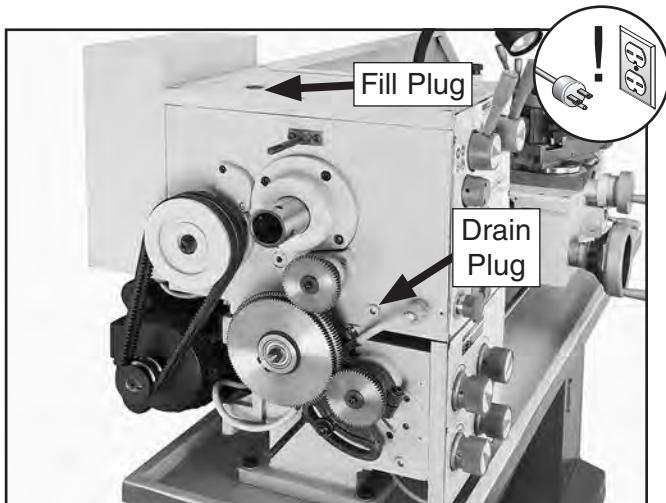

Figure 103. Headstock fill and drain plugs.
The oil fill plug is located on top of the headstock, as shown in **Figure 103**, behind the DRO mounting bracket. Add oil until level reaches halfway in sight glass (see **Figure 102** on **Page 73**).
5. Place a 2-gallon drain pan under headstock drain plug (see **Figure 103**), then remove drain plug.